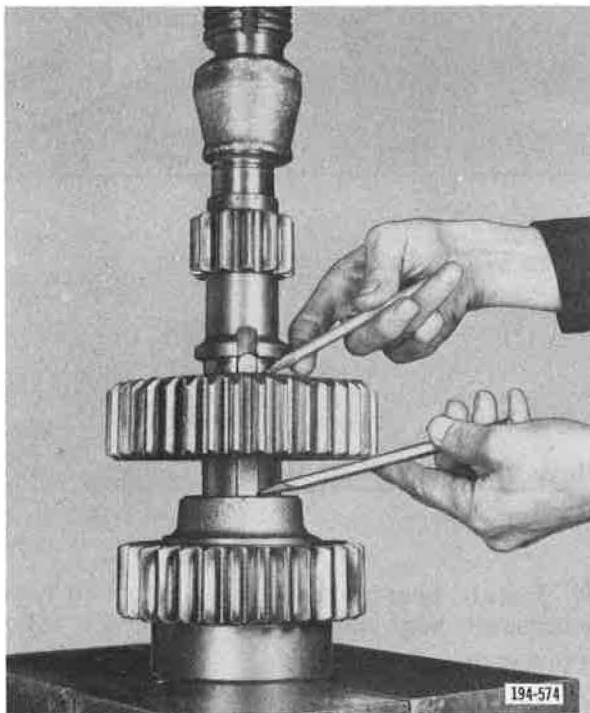

Figure 5-452. Pressing Gears onto Countershaft
5. Align Direct gear with large hub facing away from Lo-range gear, and press onto shaft until it seats against Lo-range gear. Refer to previous NOTE. See Figure 5-452.